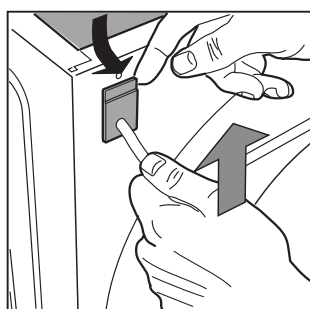

Fig. 3
4. Remove the upper part of the cable slightly from the back panel of the appliance, pull the power supply cable upwards and take it out [fig. 3].